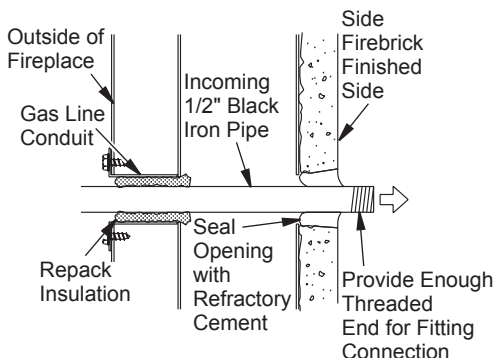

Figure 28 - Gas Line Installation
3. Run a 1/2" black iron gas line into fireplace through the rear at gas line conduit sleeve (if using a raised platform, add height). Provide sufficient gas line into fireplace chamber for fitting connection (see Figure 28).